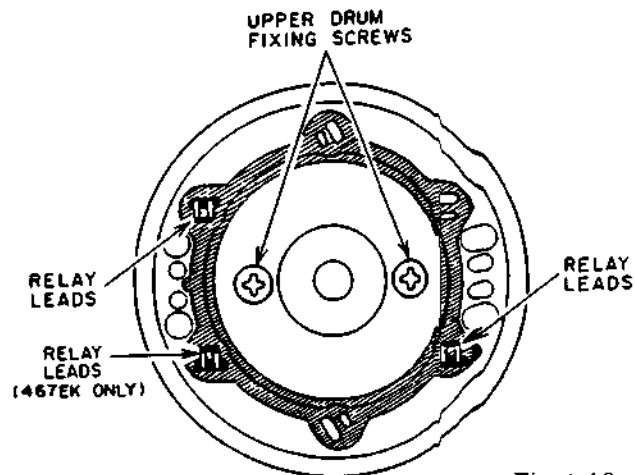

Fig. 4-19
- 1) Unsolder the four or six (**VS-467EK only**) relay leads and remove the two upper drum fixing screws as shown in Fig.4-19.